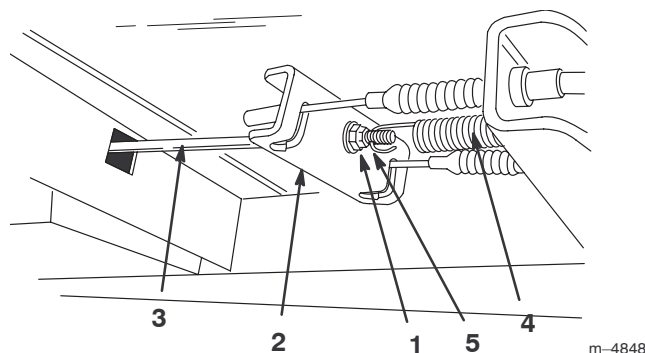

Figure 1
3. Locate the brake equalizer plate and brake rod assembly underneath the floor panel (Fig. 1).
5. Remove the brake rod from the equalizer plate and slide it out of the pedal box (Fig. 1). Discard the rod.